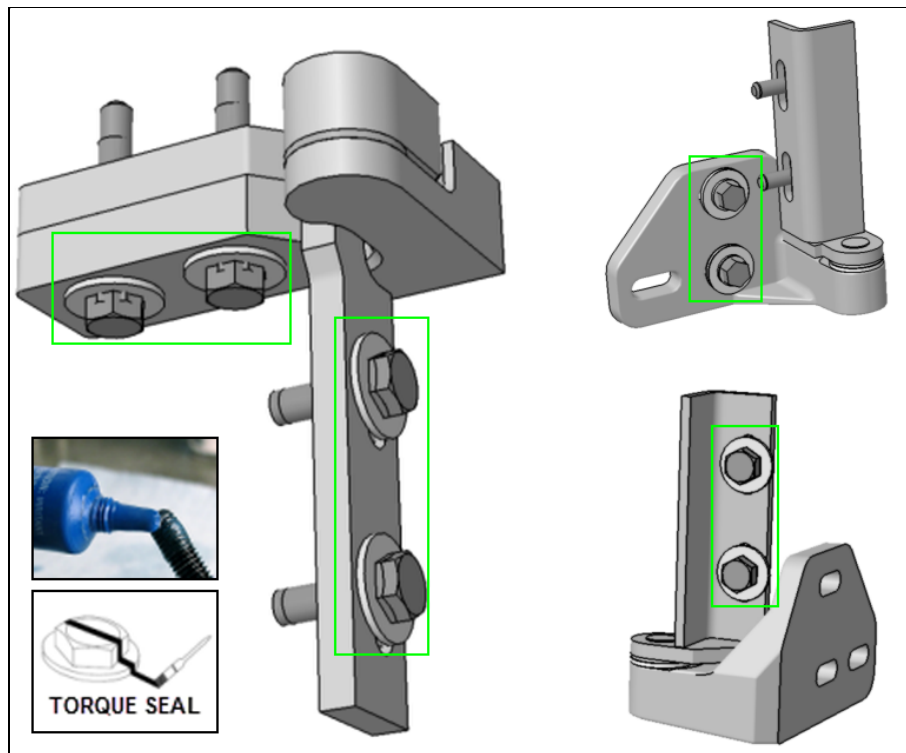

FIG.18 RE-APPLY THREAD LOCKER AS NECESSARY AND APPLY TORQUE STRIPE
- 7) With the door gaps correctly adjusted, re-apply blue, *medium strength thread locker* on the loosened bolts (one at the time – do not disturb adjustment), re-torque fasteners to the specified torque (**68 lb-in**) and apply a stripe of tamper proof indicator paint (torque seal) to all bolt heads (upper and lower hinges) (Fig.18).